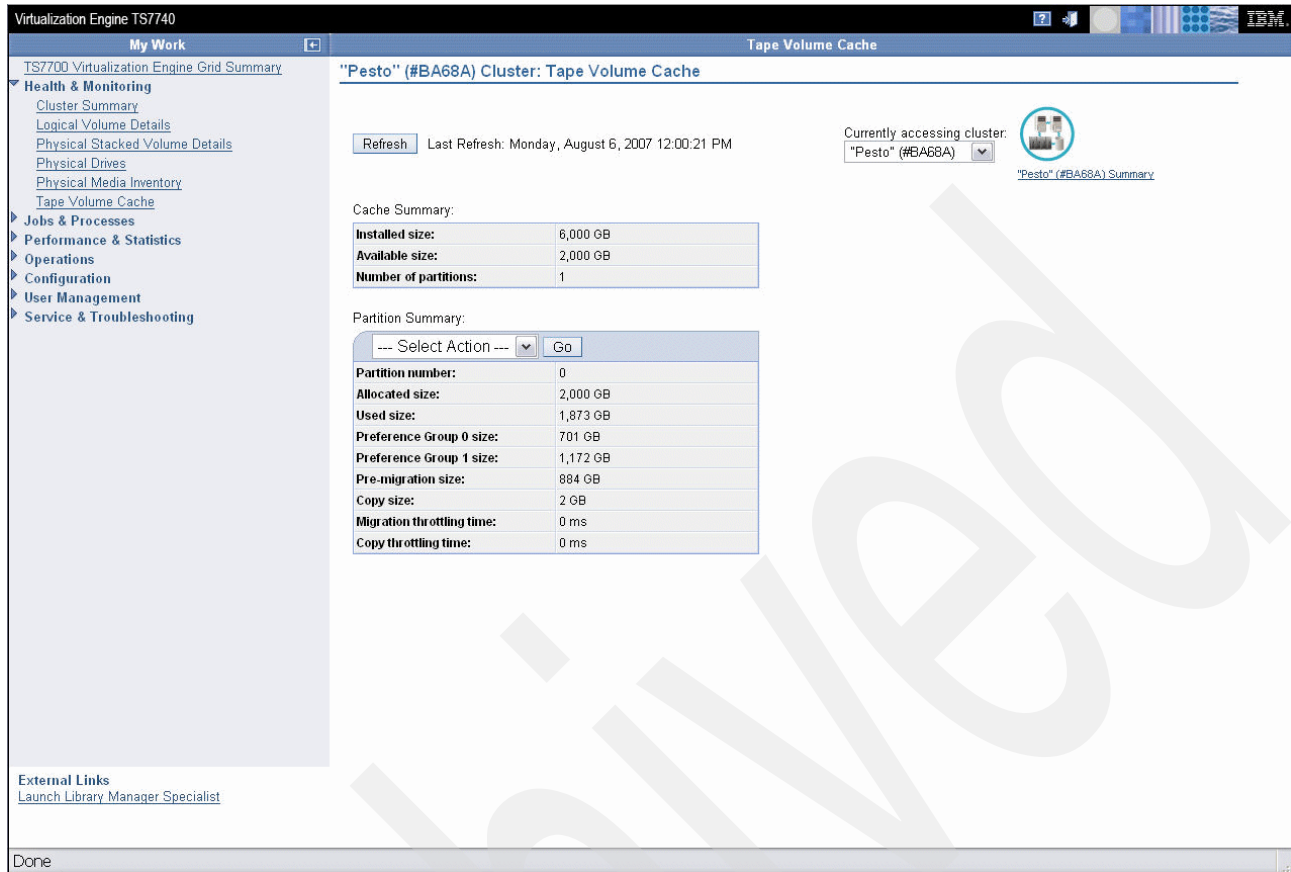

Figure 7-19 TS7700 Management Interface Tape Volume Cache
Use this page (Figure 7-19) for obtaining information about the tape volume cache in the IBM Virtualization Engine TS7700.
Whenever you need to know specific details about a tape volume cache, such as its installed size, premigration size, migration or copy throttling time, this page allows you to see the desired information, as shown in Figure 7-19.
**Partition number** The partition number within the cache. Information displayed in this table will be for this partition. In Figure 7-19 you see that partition zero is selected.